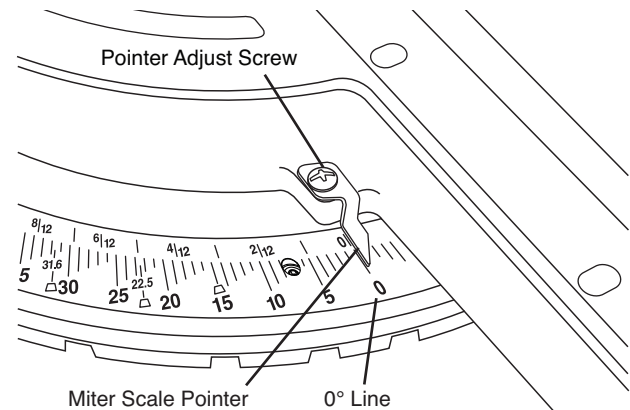

Figure 20. Miter Scale Adjustment
3. Loosen the pointer adjust screw that holds the miter scale pointer in place (see Figure 20).